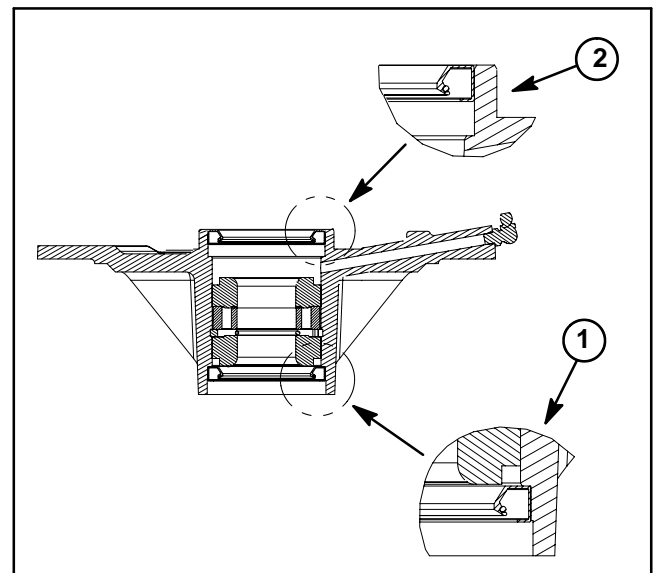

Figure 19
5. Install lower bearing cone and oil seal into bottom of spindle housing. **Note:** The bottom seal must have the lip facing out (down) (Fig. 19). This seal installation allows grease to purge from the spindle during the lubrication process.
6. Slide spacer ring and inner bearing spacer into spindle housing, then install upper bearing cone and oil seal into top of housing. **Note:** The upper seal must have the lip facing in (down) (Fig. 19). Also, upper seal should be flush or up to 0.060" (1.5 mm) recessed into housing.